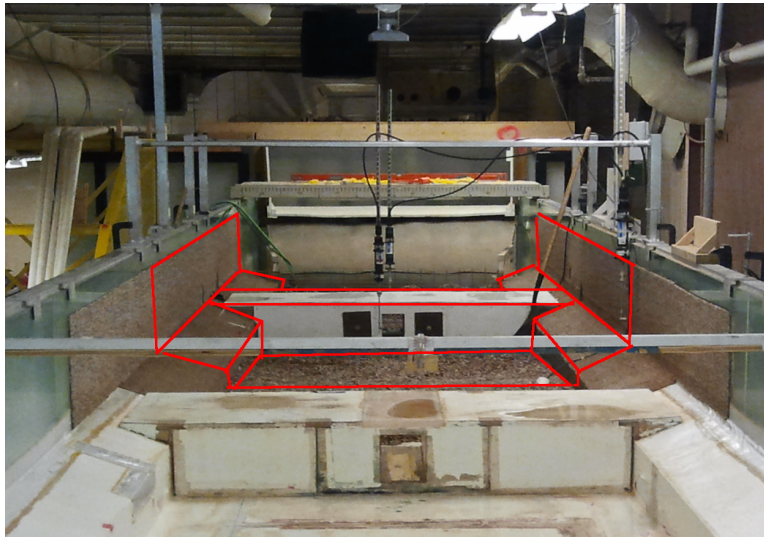

Figure 4: Research flume looking upstream. Red outline is approximate geometry of model application.
3. Simulate a rectangular channel (research flume) as depicted in Figure 4, which includes the step with a cut in the middle to represent the small culverts